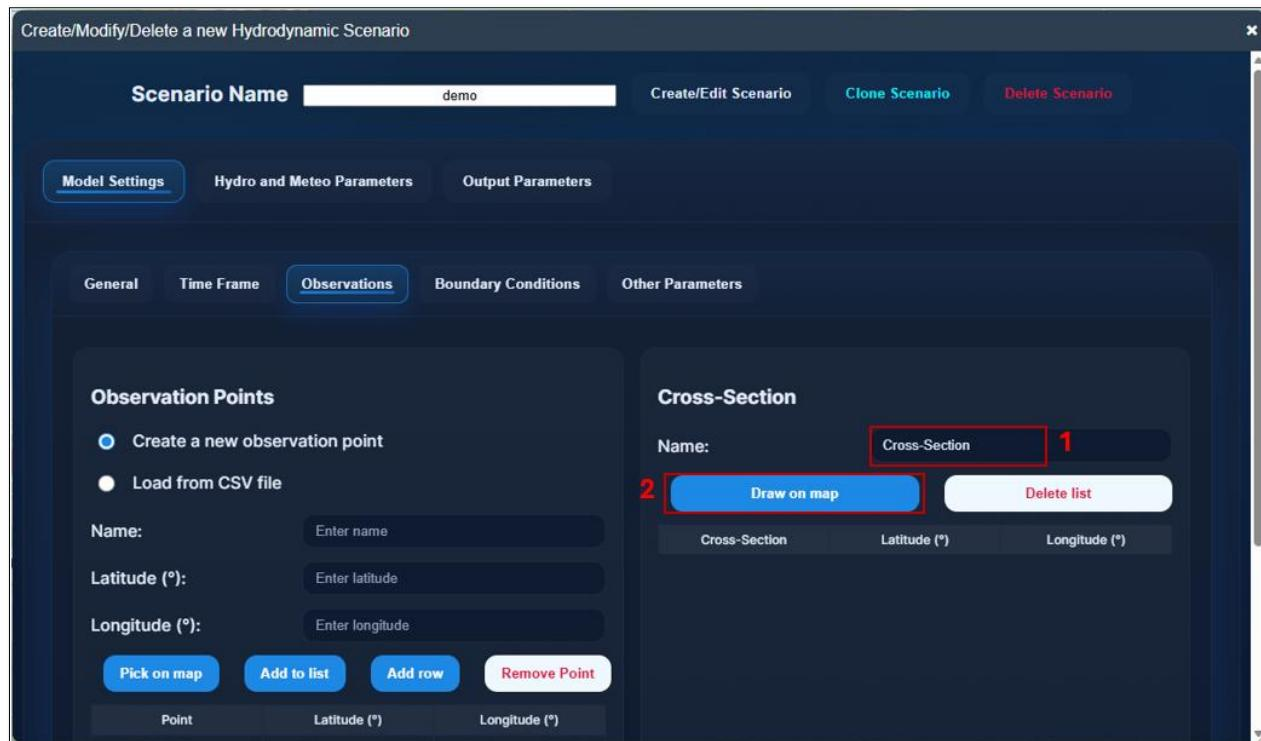

Figure 2.13. Create a cross-section
- *Step 1:* Provide the name of the cross-section in the field “**Name**” (**Figure 2.13**). If the user does not specify the name of the cross-section at this step, the application will automatically get a default name of “**Cross-Section**”.